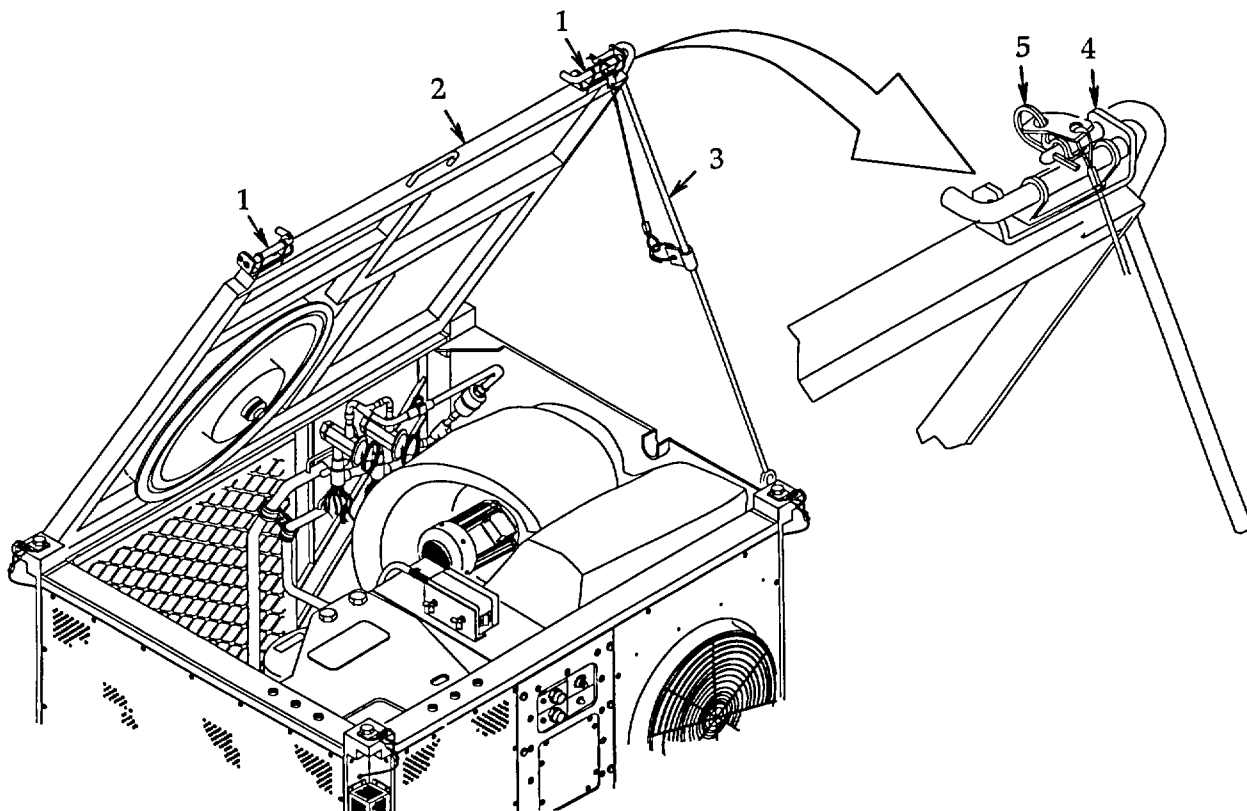

Figure 4-2. Cover.
- a. **Raising.** See figure 4-2.
b. **Lowering.** See figure 4-2.
- (1) Support cover (2) then remove hair pin cotter (5). Remove cover retaining rod (3) from latch hinge doubler (4) then lower cover retaining rod to storage position being sure end is in compressor brace slot. Carefully lower cover and secure with two latch hinges (1).